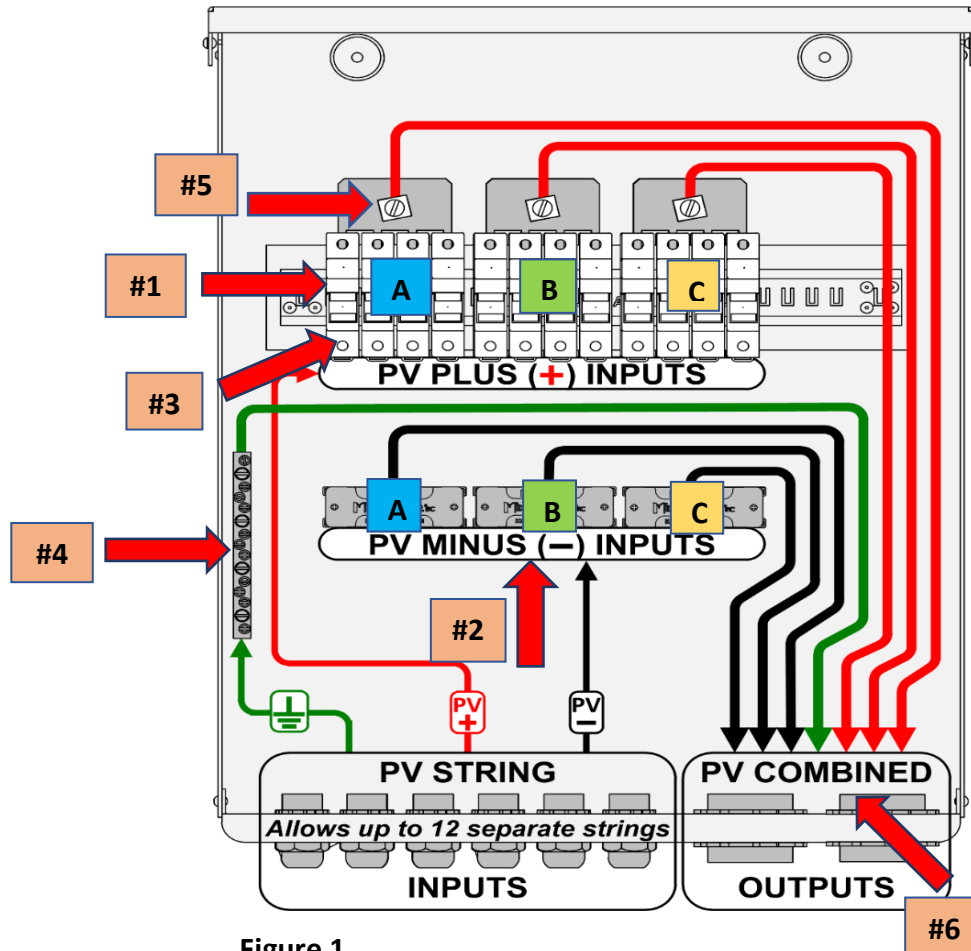

Figure 1
### Insert PV Array Wires (Figure 1)
- Notice on **Figure 1** there are 3 groups of fuseholders (**#1**), labeled **A**, **B**, and **C**. Notice there are 3 groups of PV- busbars (**#2**), also labeled **A**, **B**, and **C**. The PV wires from one array need to be grouped accordingly ... PV+ wires to **A**, PV- wires to **A**; same for group **B** and group **C**.
## Insert Ground Wires (Figure 1)
## Insert PV “Homerun” Wires (Figure 1)